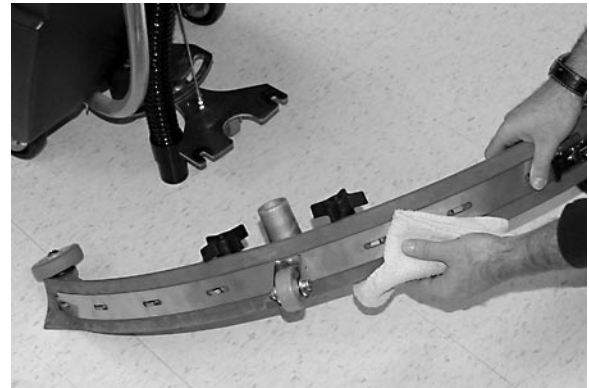

FIG. 35
4. Wipe blades down with a dry cloth and store squeegee in the up position to prevent squeegee damage (Figure 35). Check squeegee blades for damage and wear. Rotate or replace blades when worn or damaged.